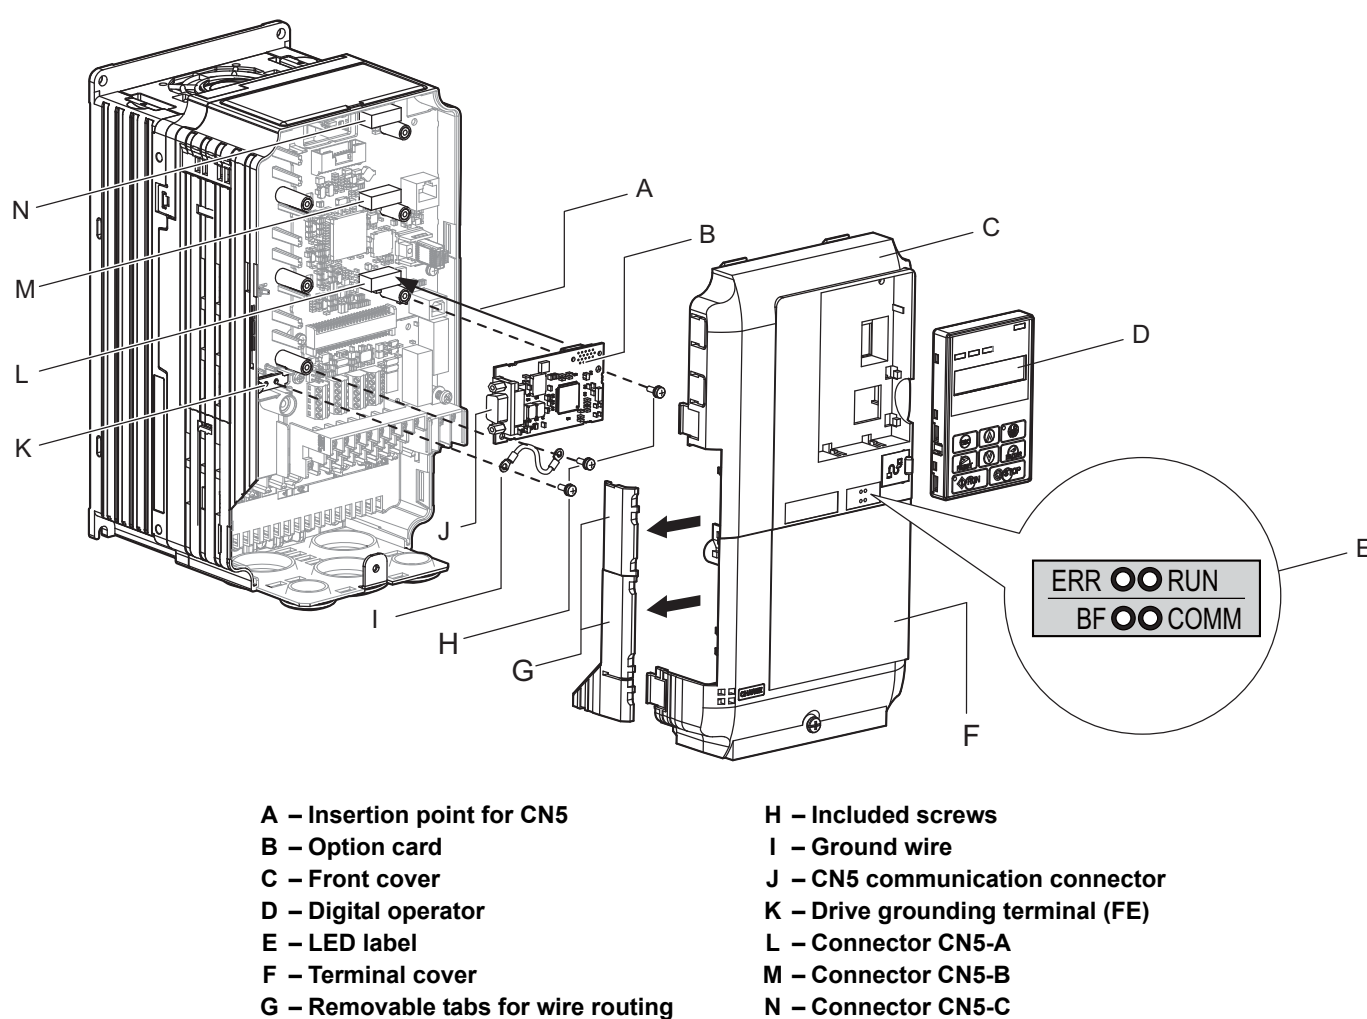

Figure 2 Drive Components with Option
*Figure 2* shows an exploded view of the drive with the option and related components for reference.